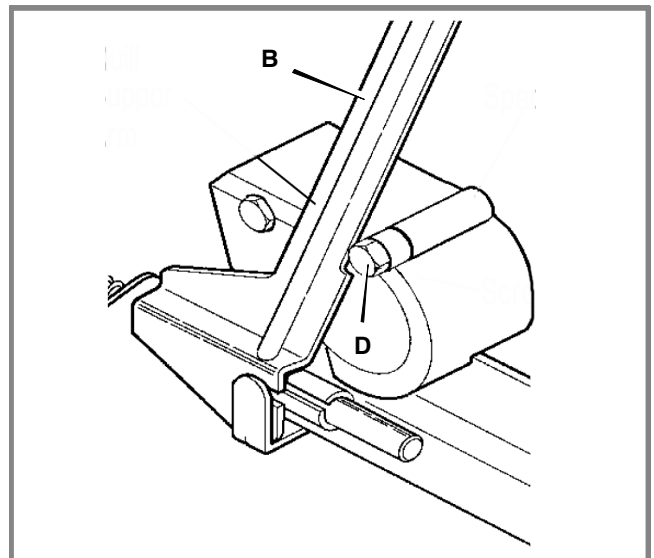

Figure 8: Quill Support Arm
NOTE: If it is difficult to move the clutch lever to the "N" NEUTRAL position, loosen the fasteners that hold the lower handle to the edger frame (see Figure 8). Raise the handle until the clutch lever will easily move to the "N" NEUTRAL position. Tighten the fasteners.
- 9 When the clutch lever is in NEUTRAL position, the quill support arm must be close to the screw (D) as shown in Figure 8.